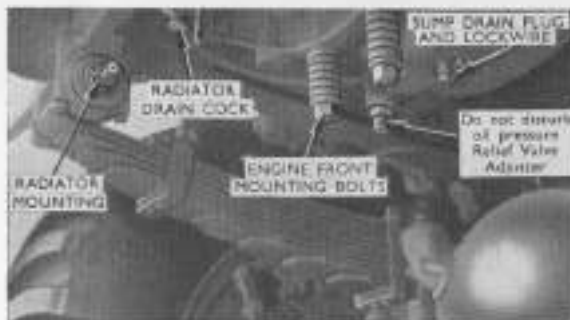

Fig. 15. Engine Front Mounting.
The two spring loaded bolts under the front crossmember should not be dead tight but should have allowance for movement of the engine against the springs (see Fig. 15).
- (e) Sump drain plugs. See also that lockwire is secure. (Figs. 15 and 16).
Do not disturb the oil pressure relief valve adjuster (Fig. 15).
- (i) Radiator mounting and tie rod. The radiator is carried on rubber blocks mounted on extensions of the pins through the front dumb irons (*Fig. 15*). The tie rod runs from the rear of the top tank to the rear of the driver's cab.